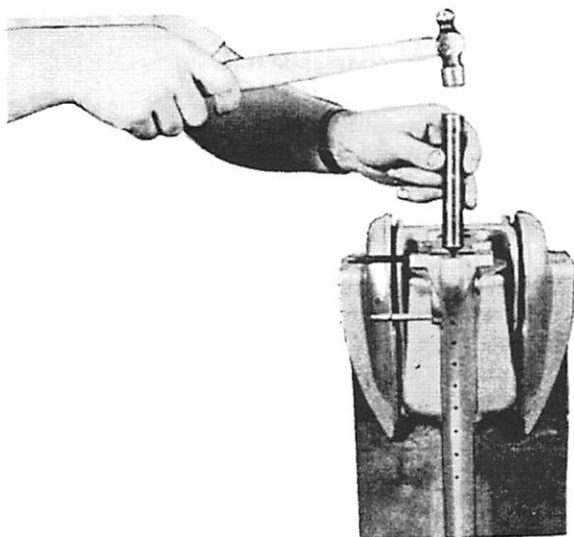

Figure 47. Flaring Water Tube
6. If copper water line has been removed, insert tube from bottom of drive shaft housing into hole for same at top of housing and flare end with flaring tool. (Figure 47) Use $\frac{1}{4}$ " punch inserted in end of tube. Follow a circular motion to start flare, then finish to match counter-sink in top of housing with a flaring tool (of same contour) which can be purchased locally.